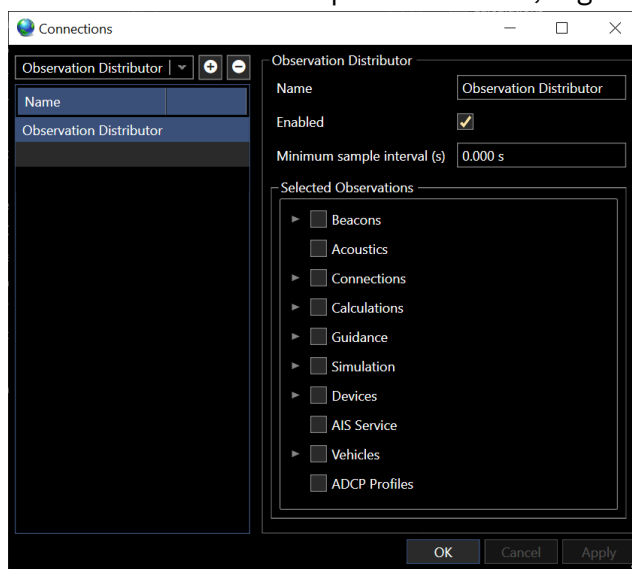

FIGURE 15-19 CONNECTIONS – OBSERVATION DISTRIBUTOR DIALOG
2. Select Observation Distributor from the drop-down menu, Figure 15-19.